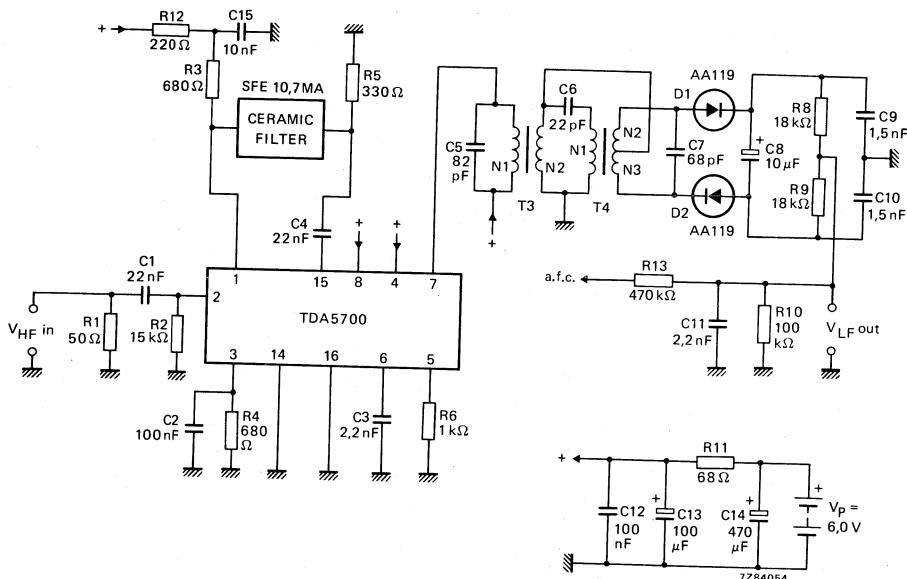

Fig. 6 Test circuit f.m. performance.
F.M. performance test circuit (Fig. 6)
F.M. - i.f. coils (Figs 6 and 9)